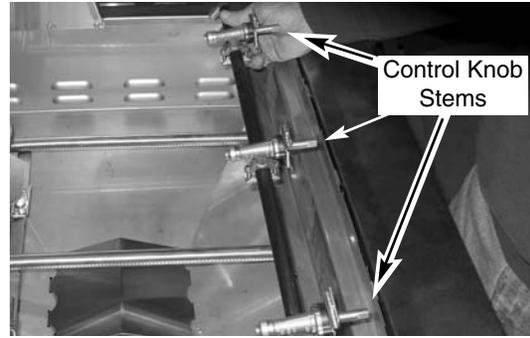

Fig 15
16. Start by placing the new manifold into the grill body with the control knob stems going outward through control panel front (Fig. 15).